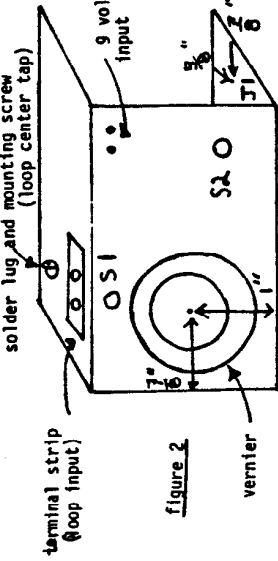

figure 2
- B) Take mini-box and punch out a 3/4" diameter circle for vernier (if you use one of the 1 1/2" diameter 7:1 Japanese jobs; try a local supplier), centered according to figure 2. Drill suitable holes for S1, S2, the 9 volt battery leads, the mounting bolts for the perboard, the terminal strips and J1.